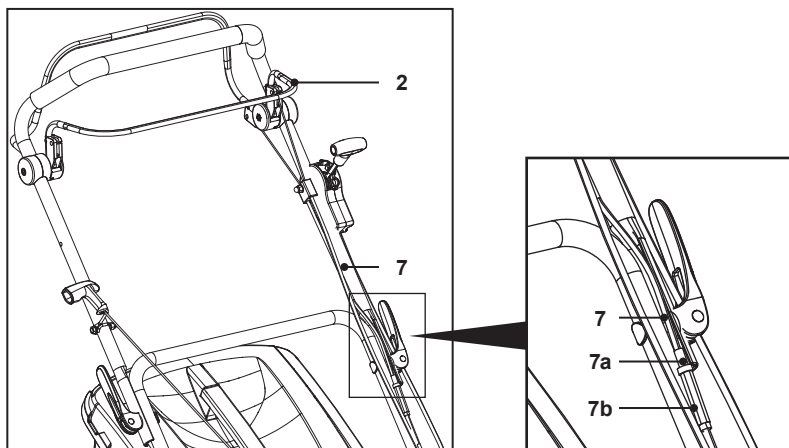

Fig. 35
If the rear wheels (25) do not rotate when operating the self-propelling lever (2), it may be necessary to adjust the self-propelling wire (7) (Fig. 35).